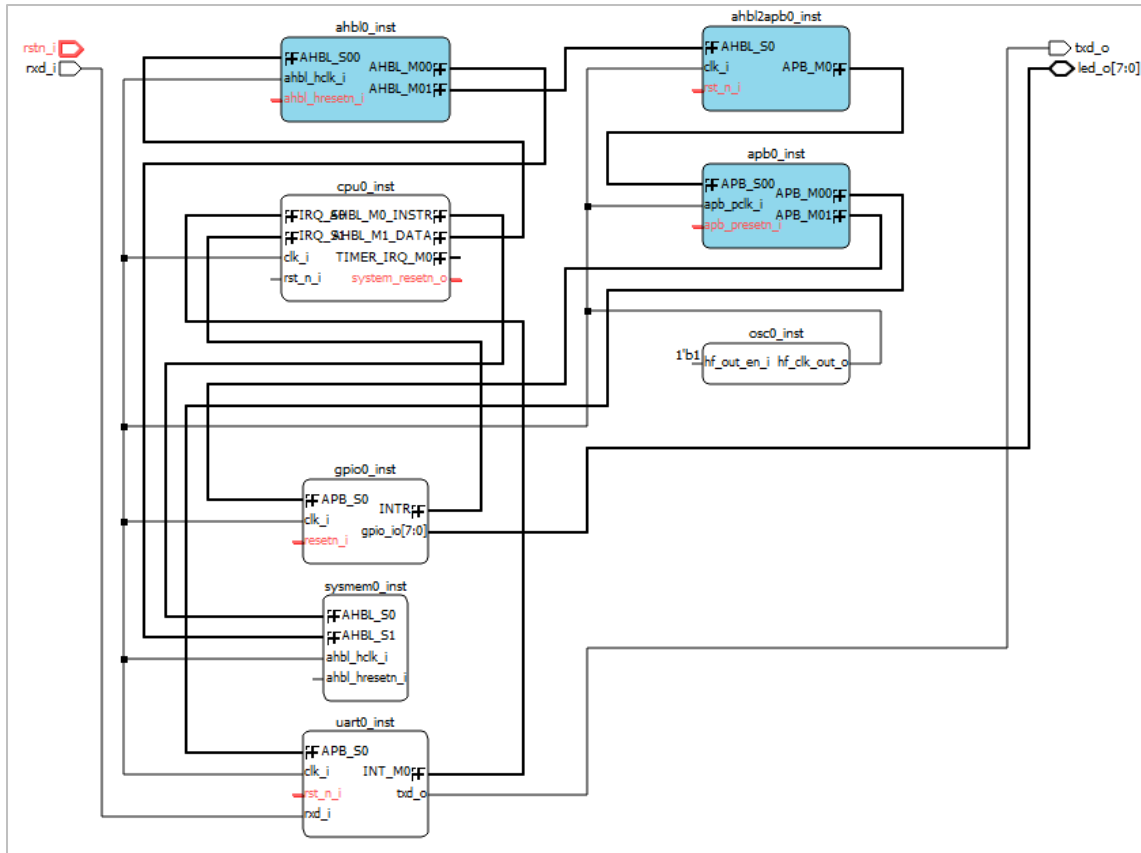

Figure 2.92. Select More than One Ports
3. You can connect multiple ports once. When more than one port is selected (Figure 2.92), click **connect**  from the right-click menu to implement it.